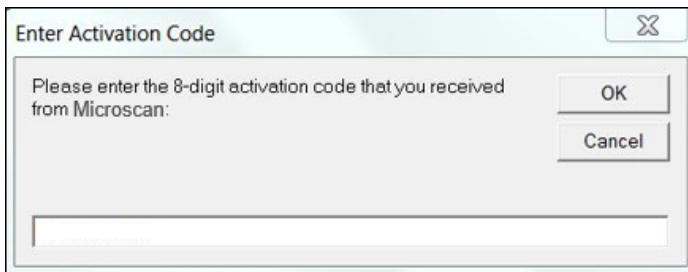

Figure 4: Enter Activation Code window
3. Next to “Custom applications (multi-sector),” click “not available (click here to enter activation code).” The “Enter Activation Code” window appears (Figure 4). Enter the 8-digit activation code received from Microscan or a Microscan distributor and then click “Ok.”